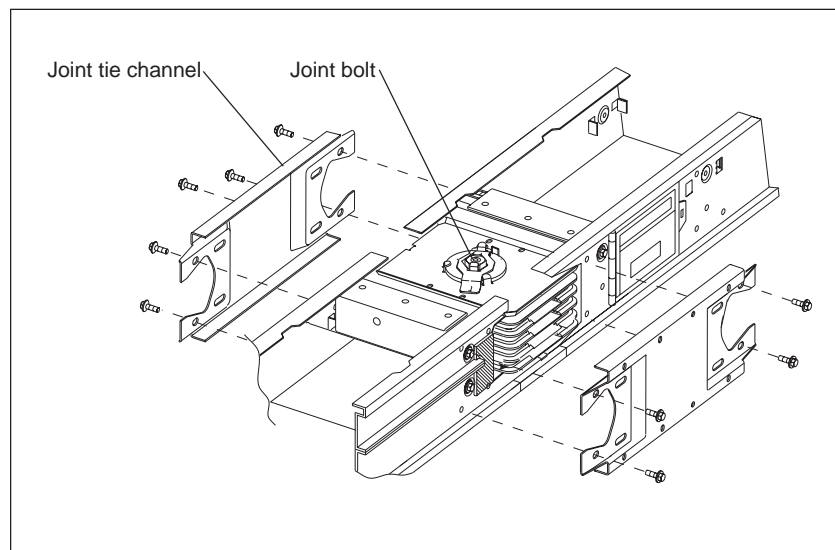

Figure 3: Installing joint tie channels
5. Install joint tie channels with supplied bolts as shown in figure 3.
6. Using a wrench with an 18 in (457 mm) or longer handle, tighten the joint bolt(s) (figure 3) until the outer head breaks off. For maintenance or relocation of the busway, torque joint bolts to 70 lb-ft  $\pm$  10 lb-ft (95 N•m  $\pm$  13.5 N•m). Consult NEMA bulletin BU 1.1 for further maintenance instructions.